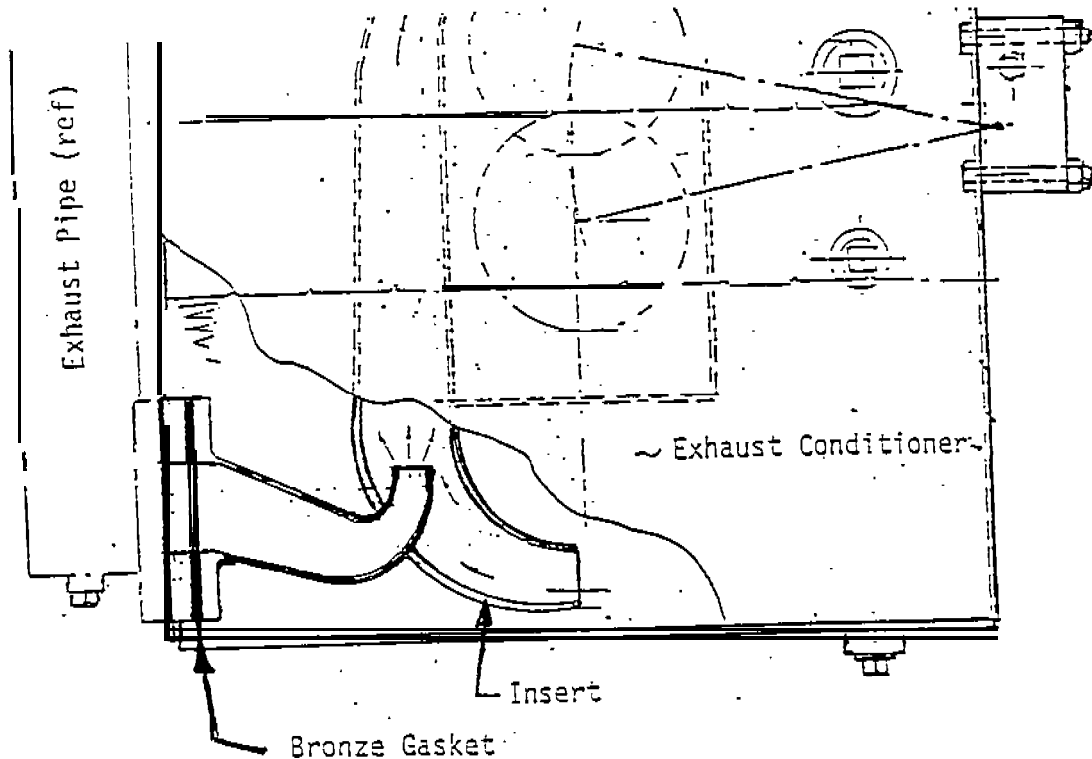

Figure 11. Gasket Between Exhaust Conditioner Flange and Scrubber Insert Flange.
18. ( ) A bronze gasket is installed between the flange of the exhaust conditioner and the flange of the scrubber insert as shown in Figure 11.